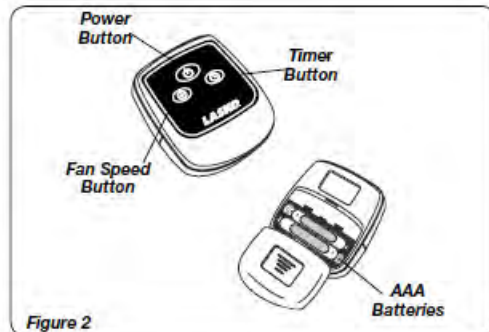

Figure 2
All the functions performed with the Remote Control work identically to the manual controls. (Figure 2)
1. Install batteries as shown in Figure 2 (Not Included). The battery is type "AAA".